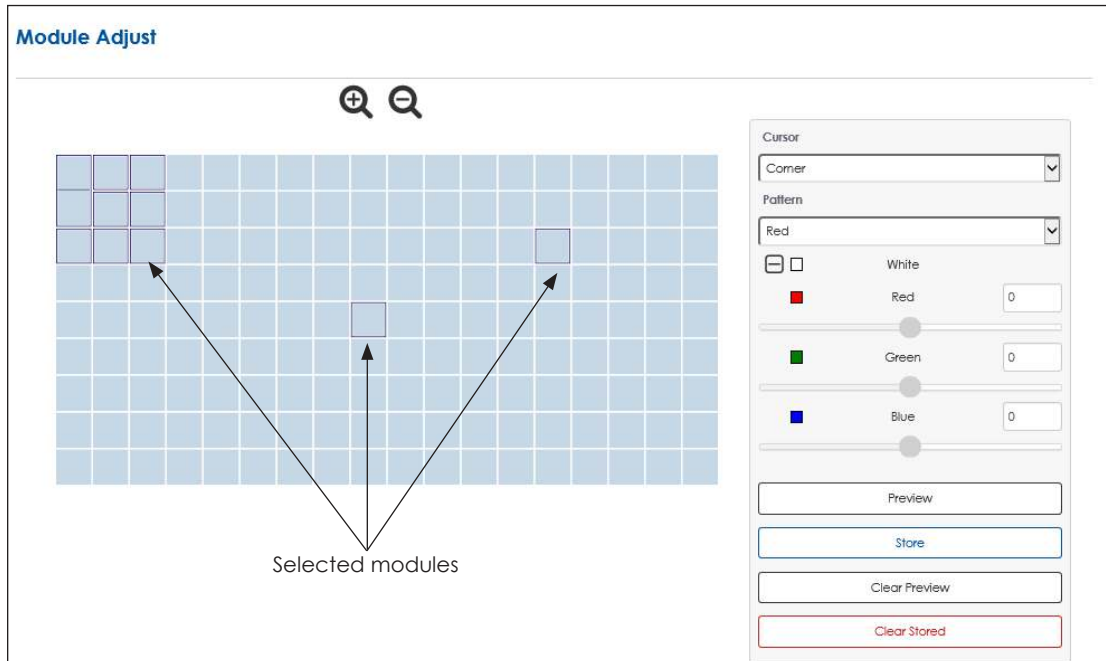

Figure 92: Module Adjustment
- Click **Start** again to open the **Module Adjust** tool. A graphic representation of the display modules opens with adjustment tools along the right side. Refer to **Figure 92**.